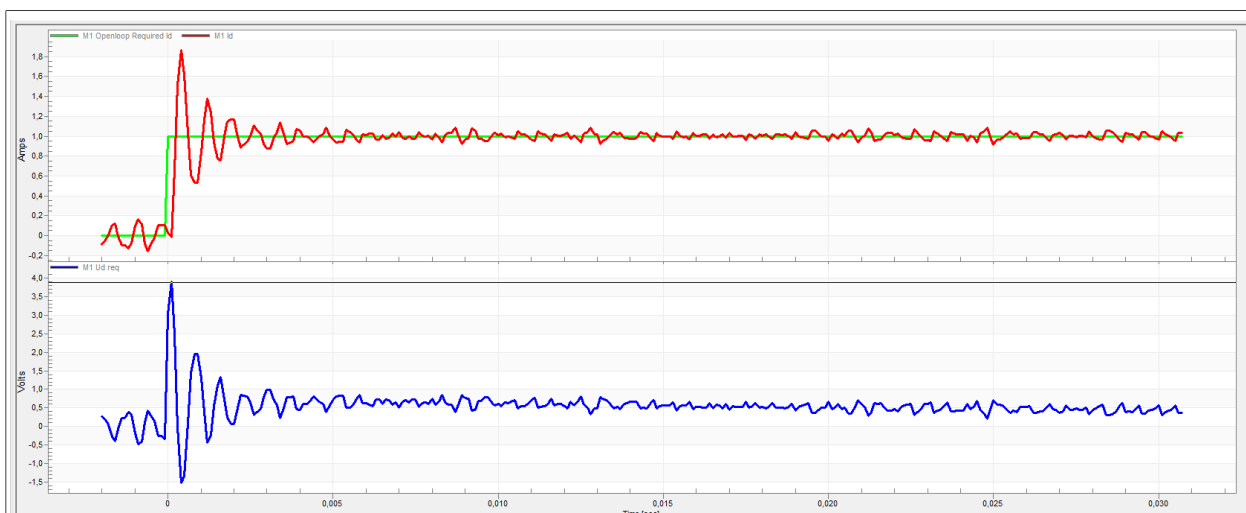

Figure 32. Fast step response of the Id current controller
- The loop bandwidth is high (700 Hz) and the response time of the Id current is very fast, but with oscillations and overshoot (Figure 32).